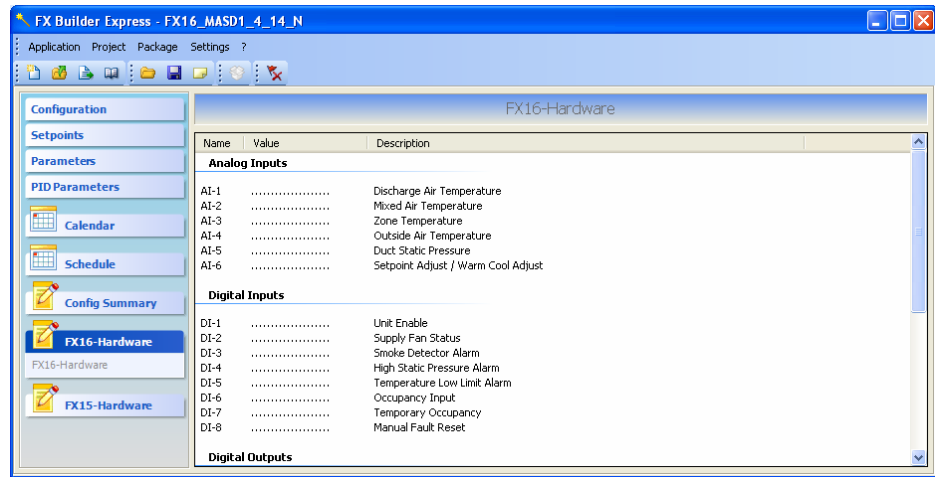

Figure 26: FXxx Hardware Tab
1. In FX Builder Express, select a standard application and select FXxx Hardware. Input and output assignments for the target controller appear (Figure 26).